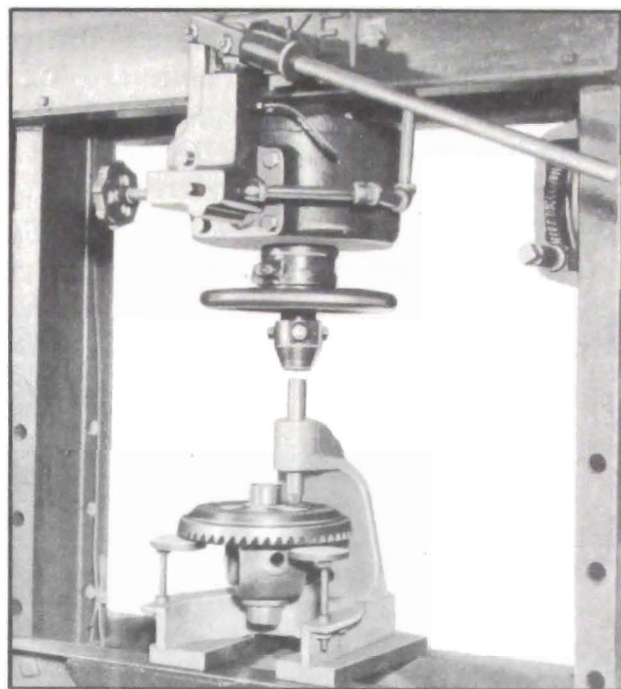

Figure 5-17—Riveting Ring Gear to Case in Riveting Jig J 2196-A
7. Place bolted assembly in Riveting Jig J 2196-A with case flange up. See figure 5-17. Use only new rivets of correct part number, which allow $\frac{5}{16}$ " of shank for heading. Install rivet in the one open hole from gear side and securely head it up cold, which requires a pressure of eight (8) tons. CAUTION: *Excessive pressure may cause rivet to squeeze out between gear and case flange, thereby distorting these parts. Never heat rivets to facilitate heading because hot rivets shrink and become loose in holes during cooling, furthermore, the heads may crack off.*